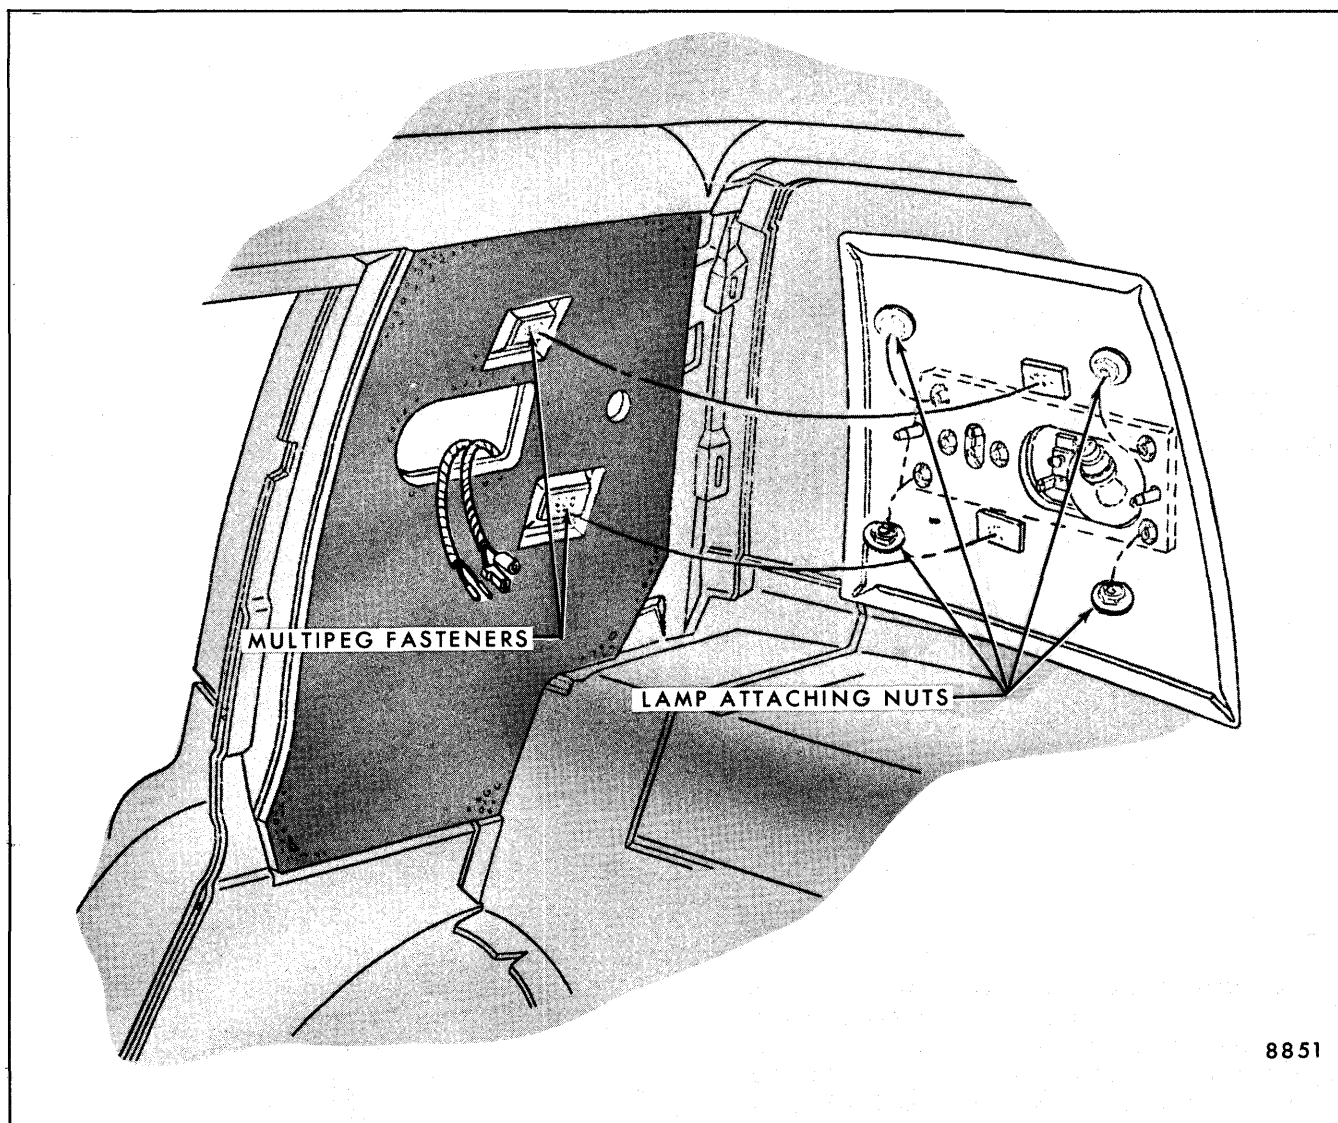

Fig. 6-2-Quarter Upper Trim and Lamp Assembly
3. Using equal force, with both hands pull the quarter upper trim assembly away to disengage the two (2) multipeg fasteners (Fig. 6-2).